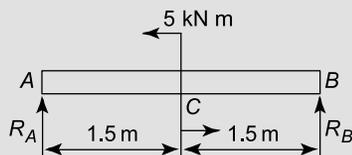

Figure 5.22
**Problem 11.** Determine the end reactions for the simply supported beam of Figure 5.22, which is subjected to an anti-clockwise couple of 5 kN m applied at mid-span.